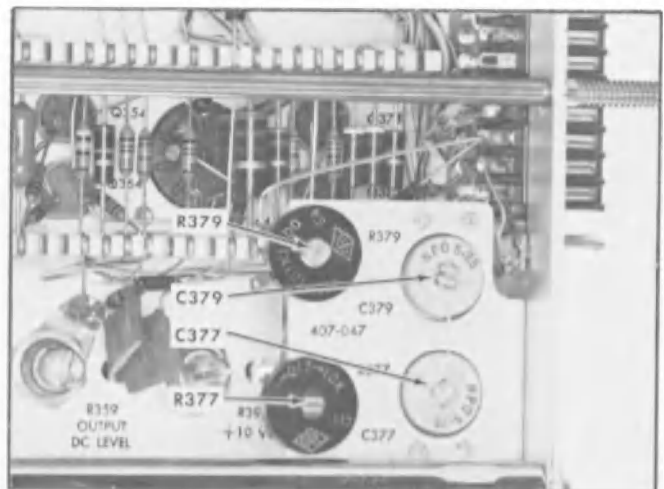

Fig. 7-15. Location of high-frequency compensations.
- g. Adjust—R379, C379, R377 and C377 for the sharpest leading corner and a level top. See Fig. 7-14A and Fig. 7-15 for location.